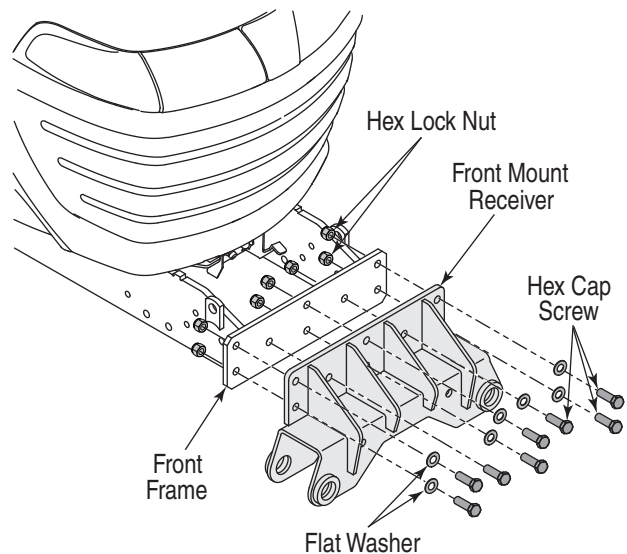

Figure 4
- Slide a flat washer (8) onto each of the eight hex cap screws (7). Refer to Figure 4.
- Position the front mount receiver (3) so that its open channel is facing downward. Then place the front mount receiver against the front of the tractor frame (where the front weight bracket was previously removed).
- Align the eight holes in the front mount receiver with the corresponding holes in the front frame. While holding the front mount receiver in position, insert eight hex cap screws w/washers through the front mount receiver and tractor frame. See Figure 4.